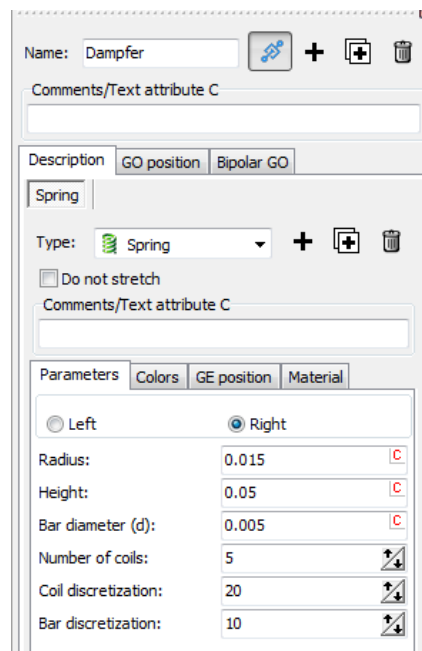

Figure 2.37.
7. Set **Spring** parameters as in Figure 2.37.